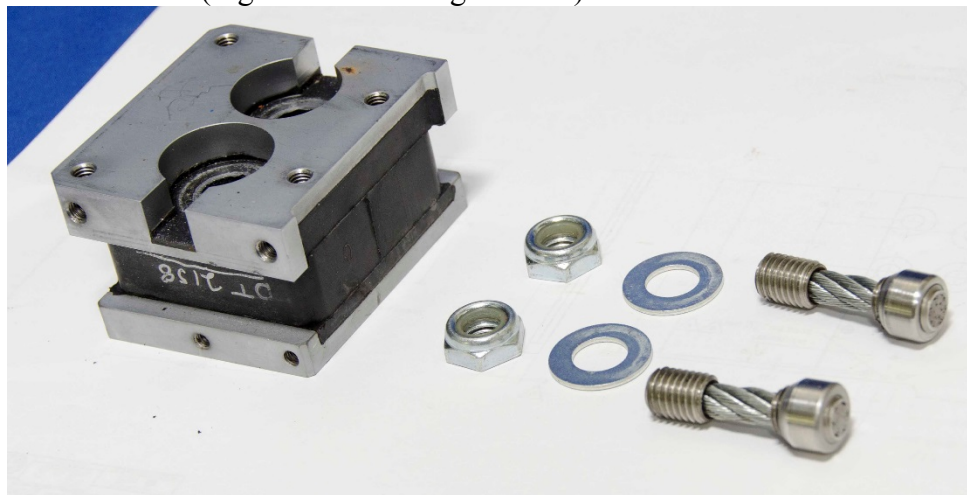
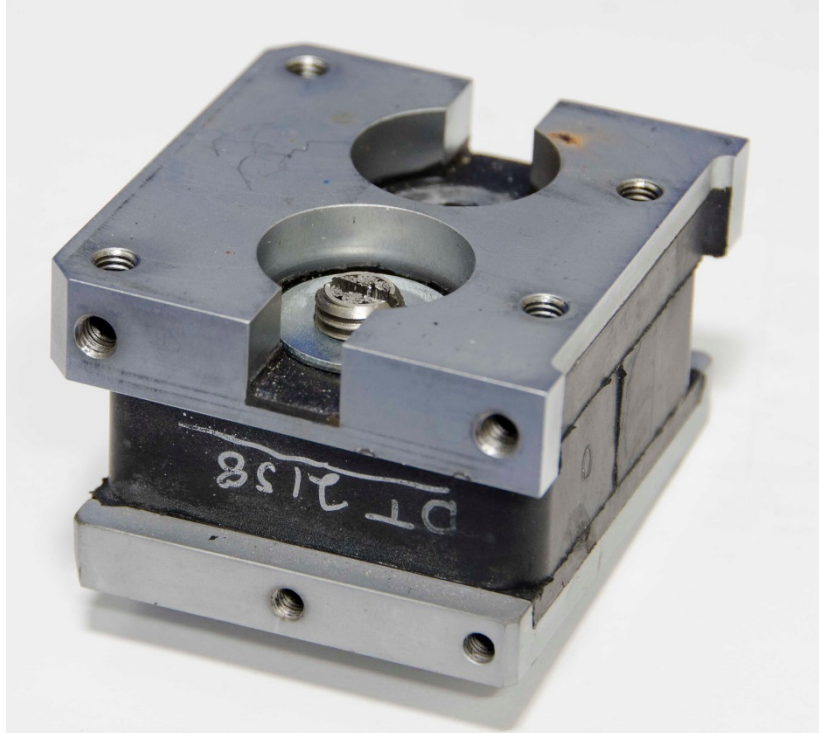

Figure 5-19. upper thoracic spine flex joint cable hardware
Figure 5-20. Install upper thoracic spine flex joint cable and associated washer
- 5.2.2.12 Insert the two Upper Thoracic Spine Flex Joint Cable Assemblies (472-3645) through the Upper Thoracic Spine Flex Joint Molded Assembly (472-3640). Install a ½ SAE Type-B Zinc Flat Washer (9003938) over the threaded portion of the cable (Figure 5-19 and Figure 5-20).